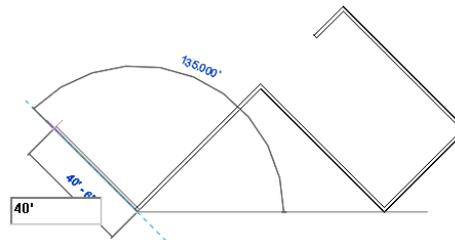

Figure 3-48 Sketching the sixth inclined wall segment
9. Next, create the connected wall segment of 40' (12192 mm) length, as shown in Figure 3-48.